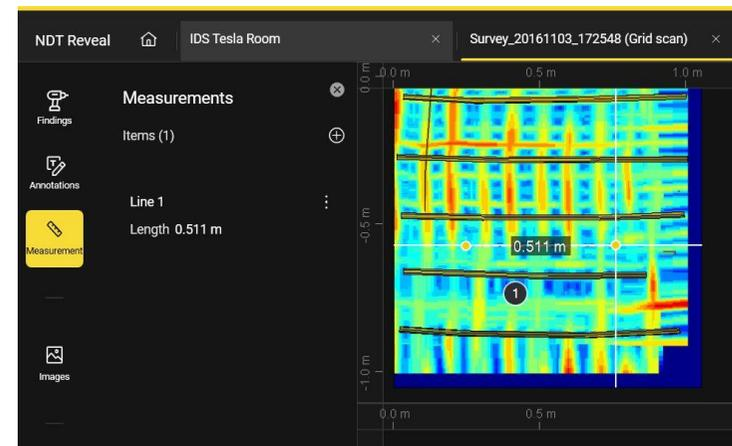

Fig. 37 Measurement list menu
3. Once finished, the measurements shall be listed in the measurements list (Fig. 37). Each measurement of the list can be edited and deleted by the  button.